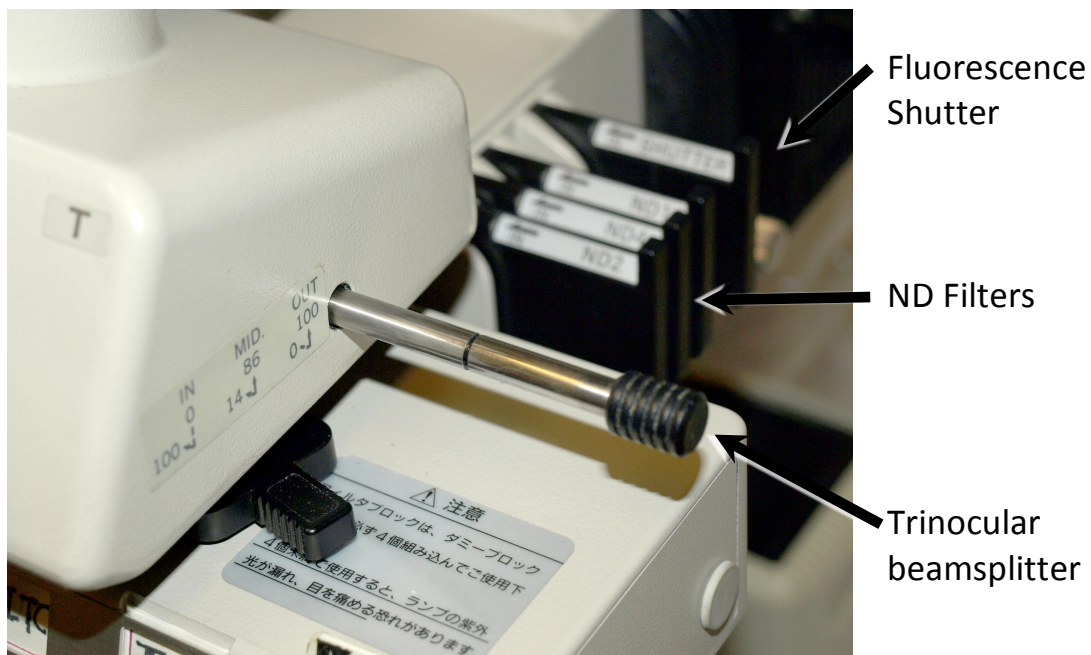

Figure 3. Trinocular Head and Fluorescence ND Filters
3. Beam Splitter (Figure 3, Table 1)
- 6.3.1. located behind the trinocular head (Figure 3);
- 6.4. Xenon excitation is controlled by a slider located between the ND filter and the xenon lamphousing (Figure 3)